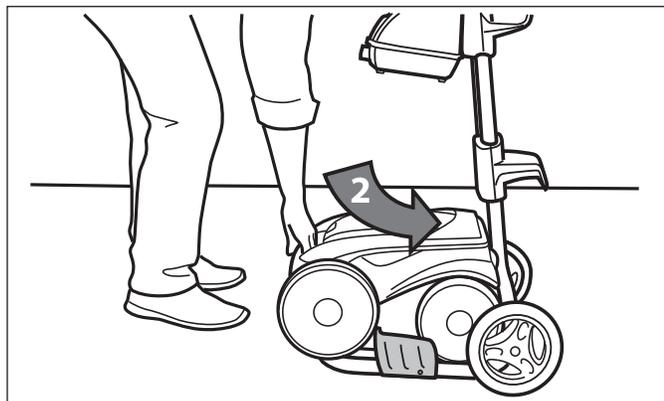

Figure 30. Roll Cleaner onto Place on the Caddy
2. Roll the unit into place onto the caddy. Refer to Figure 30.